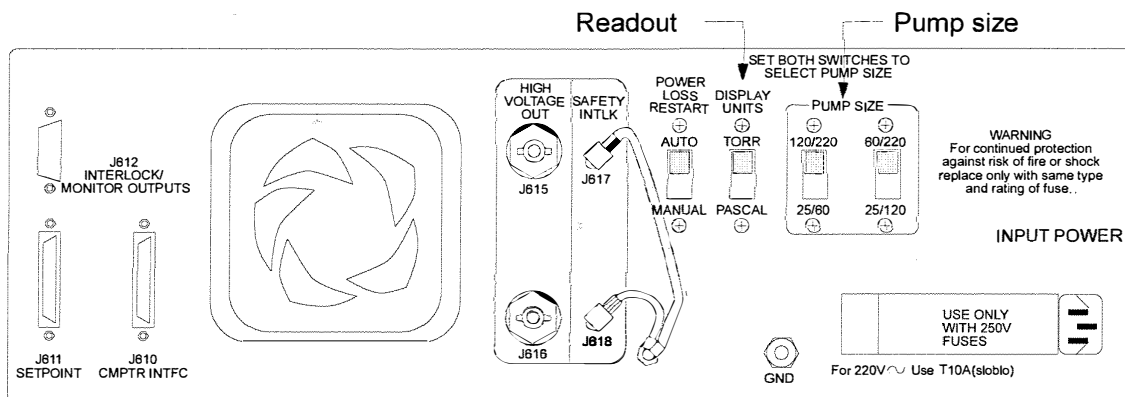

Figure 3-1. Rear Panel Controls and Indicators
- Table 3-1 describes the rear panel controls. These components are identified in Figure 3-1.